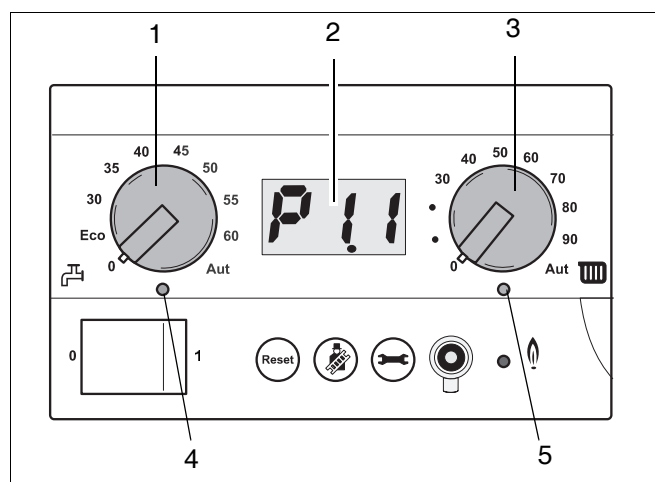

Fig. 5 BC10; adjustments
- Fill the system to a pressure of approx. 1.5 bar (fig. 5, item 2).
Setting the flow temperature (fig. 5, item 3)
The knob with the radiator symbol (fig. 5, item 3) allows the installer to set the maximum flow temperature (see table 1). When the boiler is in operation for central heating then the LED "CH operation" (fig. 5, item 5) is lit.
Setting the domestic hot water temperature (fig. 5, item 2)
Turn the knob with the tap symbol (fig. 5, item 1) to the desired temperature for your domestic hot water (see table 2).
When the boiler is in operation for domestic hot water, the LED "DHW operation" is on (fig. 5, item 4).